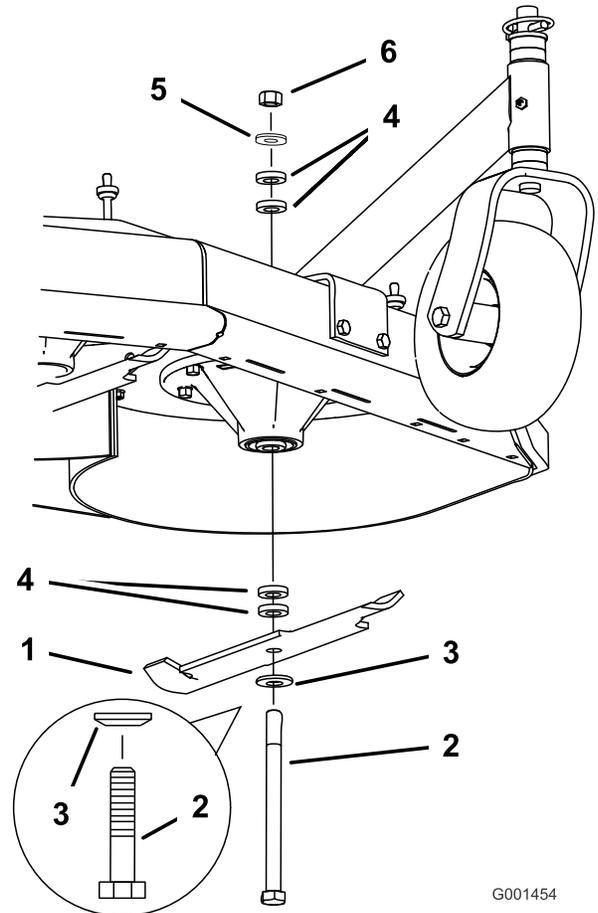

Figure 50
2. Remove the nut, blade bolt, curved washer, blade, spacers, and thin washer from the spindle (Figure 50).
1. Place the blade onto the bolt and over the curved washer. Select the proper number of spacer(s) for the height-of- cut, and slide the bolt into the spindle (Figure 50).